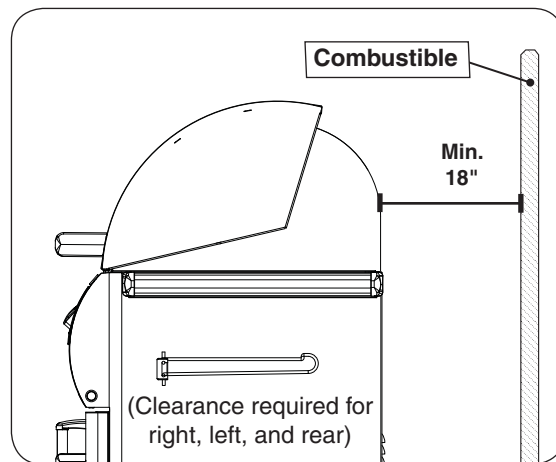

Fig. 12-1 Clearance 'A' Diagram
- The grill must have a minimum of 18" right, left, and rear clearance from any combustible wall (see Fig. 12-1).